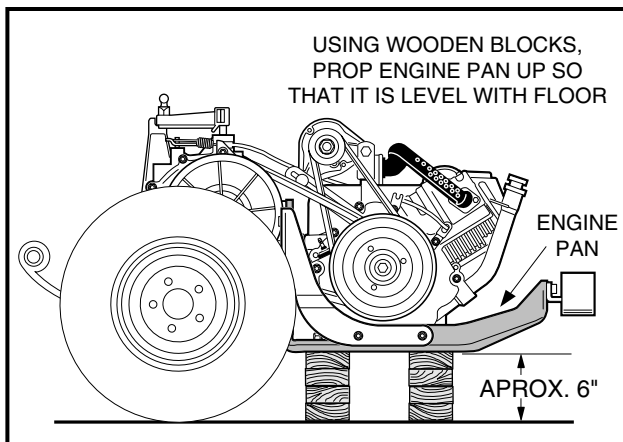

FIGURE 10-29
13. Place blocks under the engine mounting plate so that they will completely support the engine and keep it *level to the floor* (**Figure 10-29, Page 46**). See NOTE below.